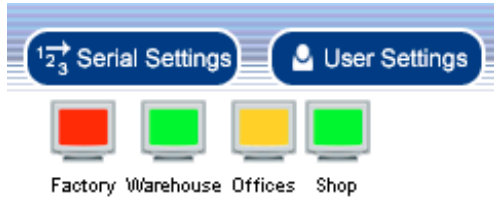

Figure 3 The Monitor icons
5. Click Apply. On the Home page Monitor icons representing the direct connection IP units appear. See Figure 3.